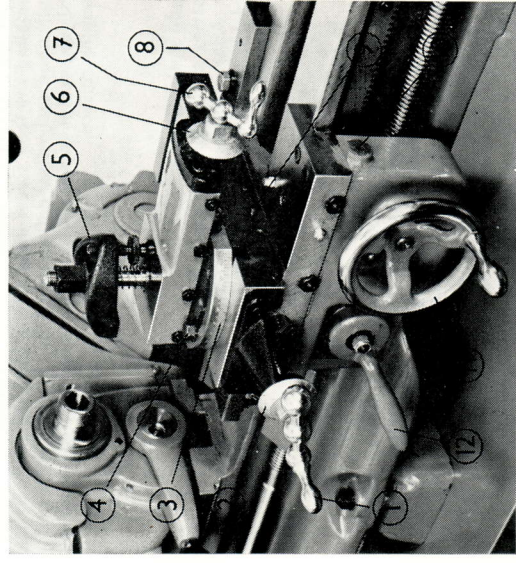

Fig. 40. Showing the carriage controls.
Fig. 40 gives the names and positions of the carriage controls. The apron handwheel moves the carriage along the bed, and the cross slide and top slide ball handles move the tool post in and out.
Two socket set screws, (9) on Fig. 40, visible on the parts list as C71, are fitted to provide cross slide clamping. (The two which project app. $\frac{1}{4}$ "). This gives extra rigidity when carrying out certain milling and boring operations.